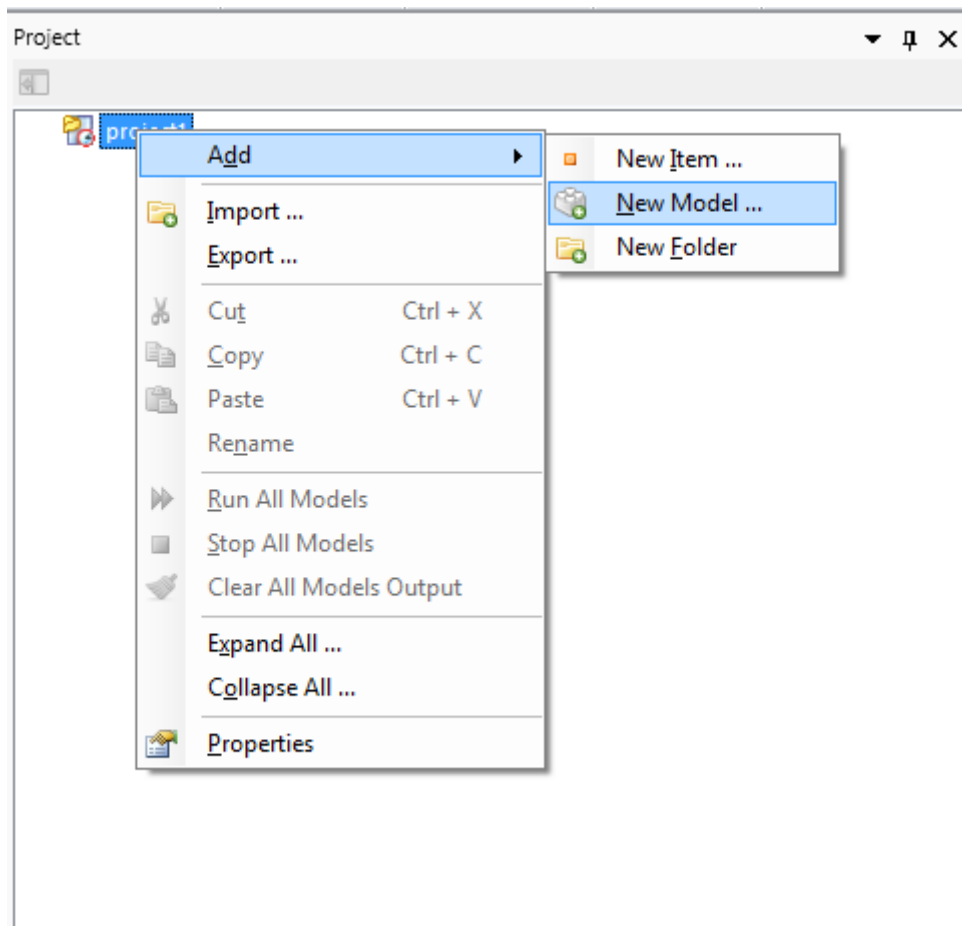

Figure 3.2: Example of the context menu after right clicking in the *Project* toolwindow.
- 2 Right click in the *Project* toolwindow on the location an item, folder or model should be added and click *New Item...*, *New Folder* or *New Model...*, as shown in Figure 3.2.